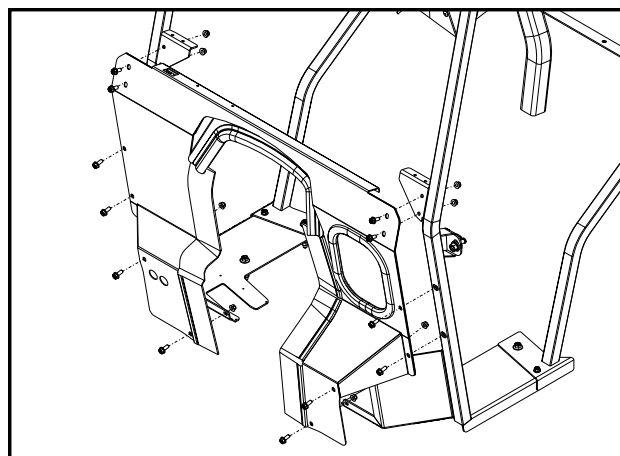
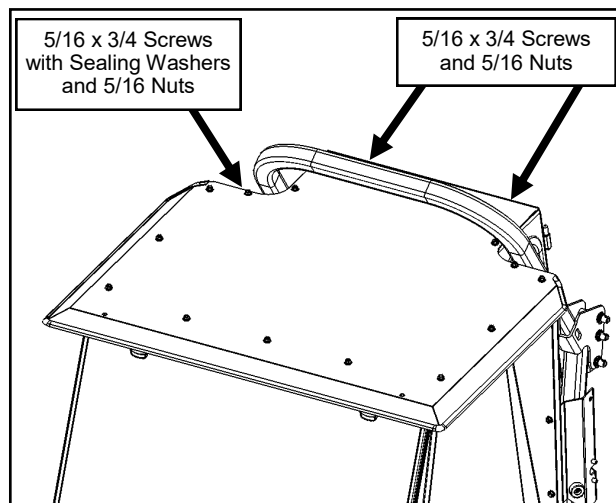

Fig. 9.1 (Install Cowl)
Fig. 13.2 (Install Roof)
9.1 With assistance, slide the cowl over the top of the hood and engine side covers using **CAUTION** not to scratch the plastic components. *TIP: Hold a finger over the edge of the sealing rubber at the bottom corners of the cowl so it does not slide off and leave the metal edge of the cowl exposed to contact the side engine covers. It is also helpful to tip the bottom as far back as possible until it reaches the pedals and brackets at the bottom of the A-pillars. Keep the power wire and heater hoses on the right side away from the A-pillar/cowl seam. For best water sealing, make sure the rubber seal folds forward (towards the front of the vehicle) for the entire length of the bulb rubber.* Secure the cowl to the A-pillars with hardware listed below. See Figure 9.1.
- 13.2** With assistance, set the roof on top of the Door Headers, Windshield Support, and Rear Legs. See Figure 13.2. Loosely secure with sealing washers on the thirteen (13) screws through the top of the roof, and no sealing washers on the two (2) screws through the back of the Rear Legs.
For 5/16" bolts (qty.: 4 on the Cowl) that thread into factory installed threaded inserts in the A-Pillars, use 20 foot-pounds. Ref.: fig. 9.1 on page 9. Typical for the 4 Roof bolts that also thread into factory installed threaded inserts. Ref.: fig. 13.2 on page 11.
For 5/16" bolts (qty.: 13 on the Roof) that use plastic washers, use only 12.5 foot-pounds. Ref.: fig. 13.2 on page 11.